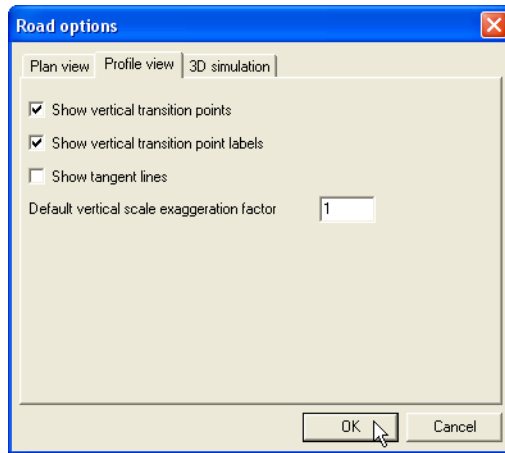

Figure 6-44. Set Plan View and Profile View Options
3. Click the *Profile view* tab and select the desired parameters (Figure 6-44 on page 6-39).